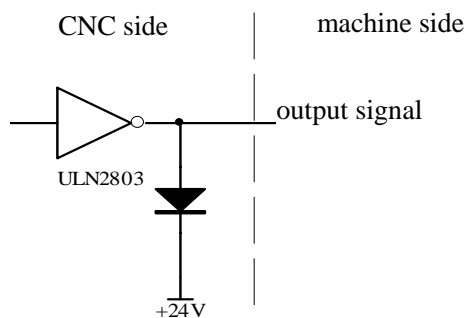

Fig.2-38
2. TL+ and TL- are positive/negative rotation signals, the inside circuit as fig.2-38: